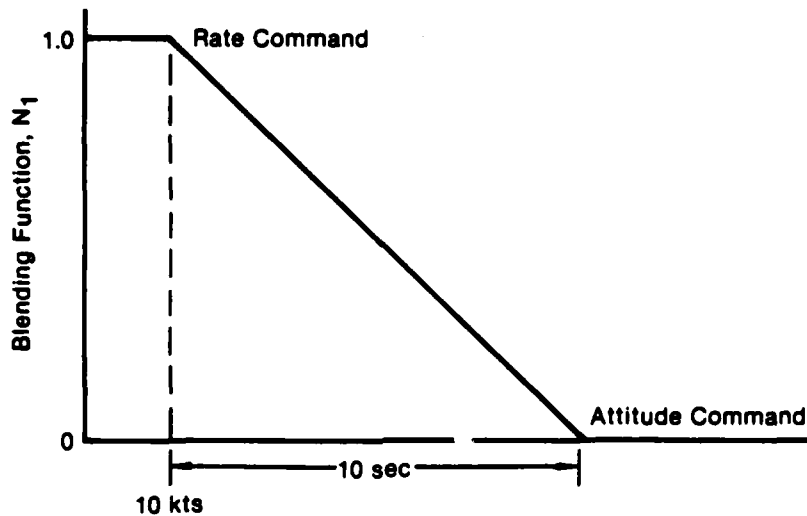

Figure 29. Optimum Inbound Transition Blending Schedule
6. CONTROL BLENDING DURING TRANSITION - The pilot comments indicate that a 10 second control system blend, initiated at 10 kts, is about optimum for transition from conventional to hover flight. Figure 29 illustrates this blend schedule. A shorter blend time was desired for the transition from hover to conventional flight. The pilot comments suggest that even with an optimum blending schedule, the static sensitivities need to be blended also. That is, a static sensitivity suitable for conventional flight may not be suitable for hover and low-speed flight. This indicates the command gain schedule was not ideal.